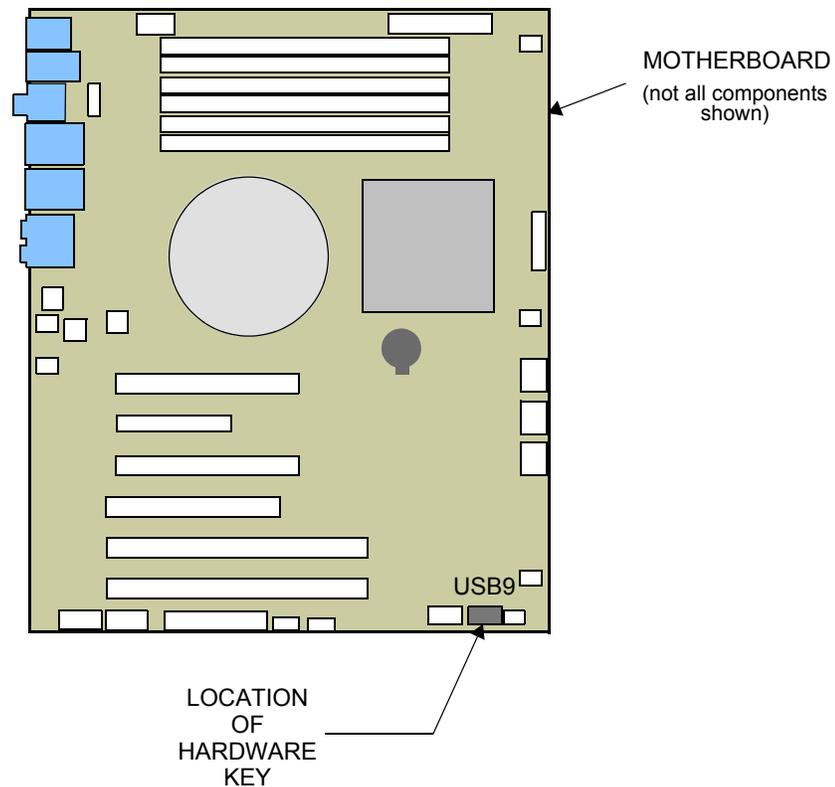

Figure 13 Checking Installation of Security Device
2. Locate the security device (also referred to as the hardware key or dongle) installed on the motherboard at USB connector USB9. See Figure 13.